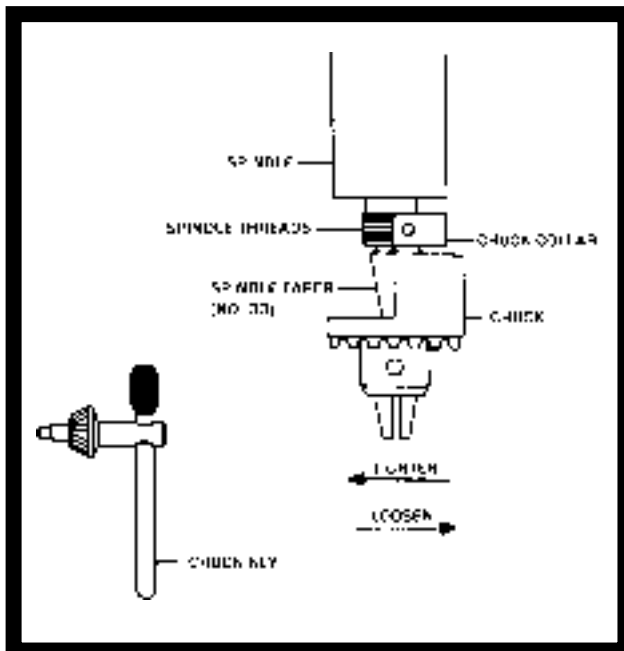

FIGURE 5
1. Wipe off the No. 33 spindle taper and tapered socket in chuck body (Fig. 5) with a clean cloth. Make sure no foreign particles are left on these surfaces which could prevent proper seating of the two parts.
2. Apply a light film of oil on the spindle taper and place chuck on end of spindle (Fig. 5). Screw chuck collar on to the threads at end of spindle. Hold spindle pulley with one hand to keep spindle from rotating and tighten the chuck collar with drill chuck key.
3. When removal of the chuck is required - disconnect power source. Hold top spindle pulley with one hand and using chuck key handle, loosen chuck collar by turning counter-clockwise (Fig. 5). Continued rotation of the collar will force the chuck off tapered spindle. **NEVER** attempt to drive or wedge chuck off as damage could result to chuck, spindle nose and spindle bearings.